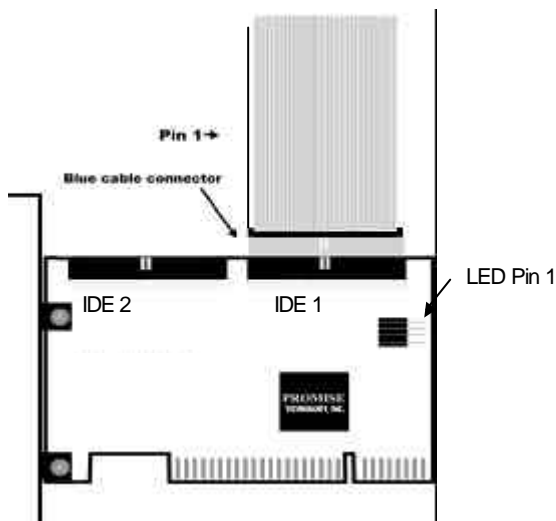

Figure 2
4. Attach your system case's 2- or 4-pin LED cable to the LED connector on the FastTrak TX2000 controller card (see Figure 2 on page 8). Make sure that pin 1 on the connector is aligned with pin 1 of the cable.